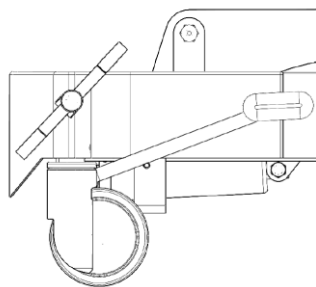

Figure 18
- 1) The shower trolley should be placed in a stable position for safe operation by blocking the wheels using the brake pedal (see Figure 18). Place shower trolley - art. 155000 and 155010 on a horizontal surface in a stable position. To prevent the movement of the shower trolley - art. 155000 and 155010, and the fall of the patient, do not use this shower trolley - art. 155000 and 155010 on surfaces with depressed drains, holes or inclined surfaces that exceed a ratio of 1: 50 (1,15°).
- Activate the brake pedal of wheels (Figure 18)
- Reactivate the brake pedal of wheels (Figure 18)